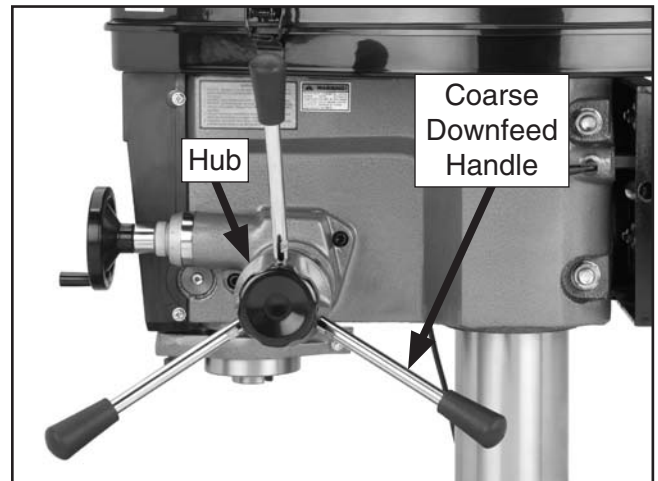

Figure 10. Coarse downfeed handles installed.
3. Install the three coarse downfeed handles into the hub (see **Figure 10**).